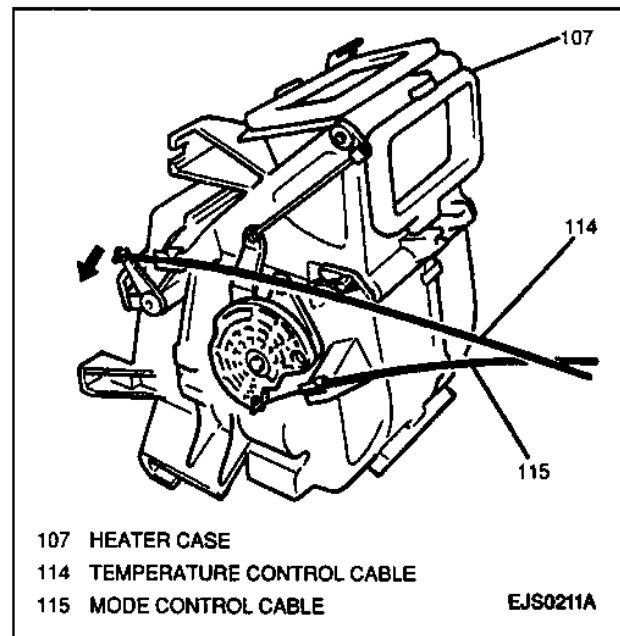

Figure 16—Temperature Control Cable at Heater Case
8. Temperature control cable from heater control unit and heater case (Figure 16).